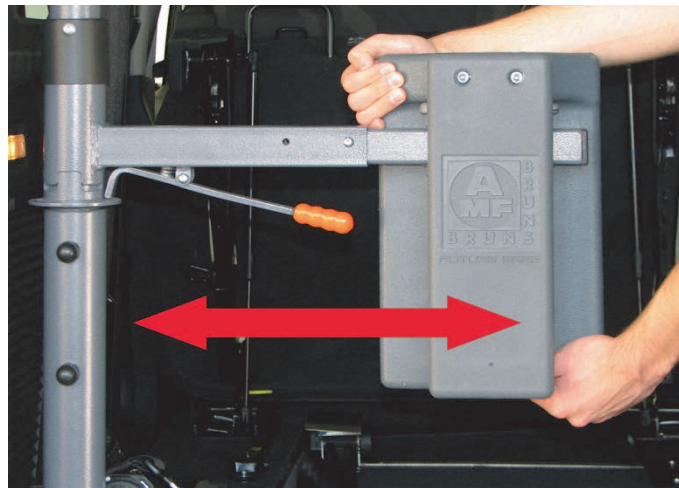

Figure 5: Adjusting the Swivel Arms Laterally
- ⇒ Take hold of the head- or backrest with both hands (see Figure 5).